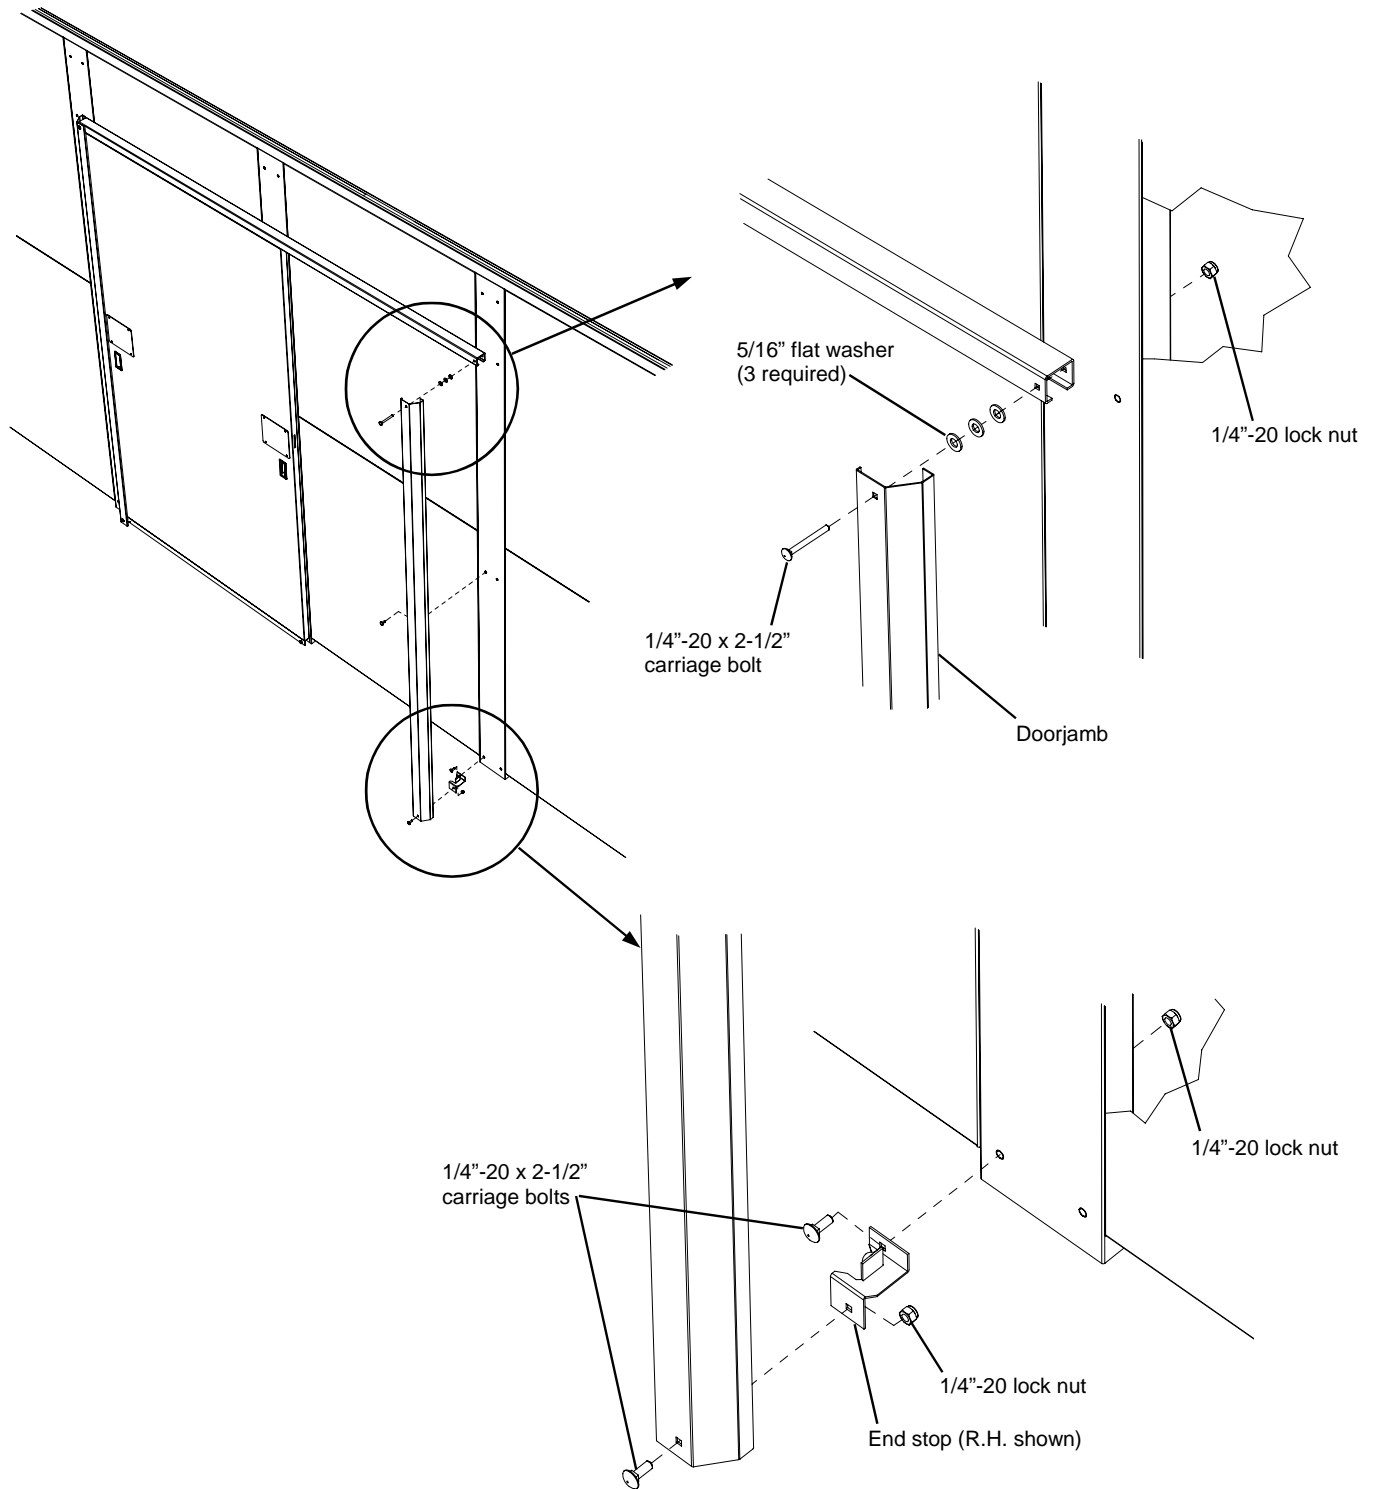

Figure 20
6. Assemble the remaining doorjamb and end stop bracket to the cage post. See figure 20.